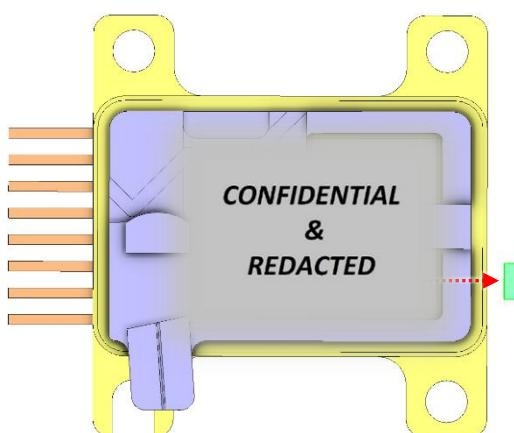

Figure 41 - L1 Angle Mirror, Position 2
- 10.3.4.5 Travel the mirror along the X-axis 2-4mm behind the assembly. (Figure 41).